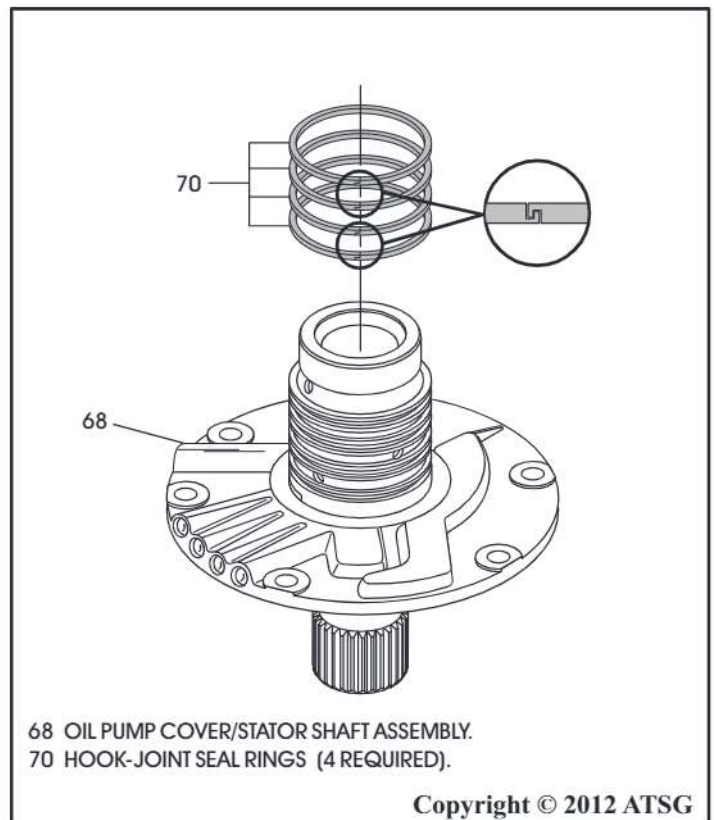

Figure 204
9. Install four new hook-joint sealing rings onto the oil pump cover/stator shaft, as shown in Figure 204.